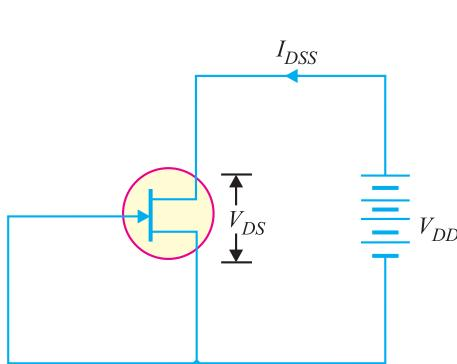
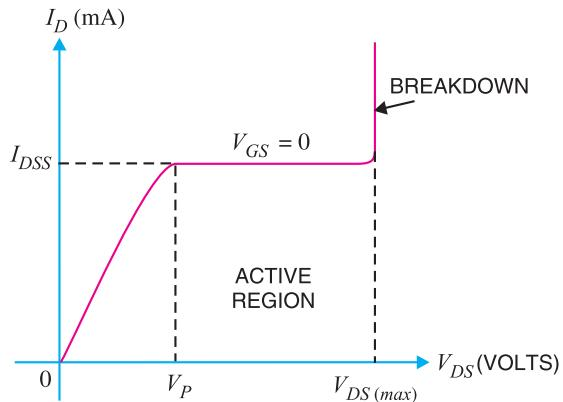

Fig. 19.9
Fig. 19.10
Fig 19.9 shows the *JFET* circuit with  $V_{GS} = 0$  i.e., source shorted-circuited to gate. This is normally called shorted-gate condition. Fig. 19.10 shows the graph between  $I_D$  and  $V_{DS}$  for the shorted gate condition. The drain current rises rapidly at first and then levels off at pinch off voltage  $V_p$ . The drain current has now reached the maximum value  $I_{DSS}$ . When  $V_{DS}$  is increased beyond  $V_p$ , the depletion layers expand at the top of the channel. The channel now acts as a current limiter and \*\*holds drain current constant at  $I_{DSS}$ .
- (ii) There is a maximum drain voltage [ $V_{DS(max)}$ ] that can be applied to a JFET. If the drain voltage exceeds  $V_{DS(max)}$ , JFET would breakdown as shown in Fig. 19.10.